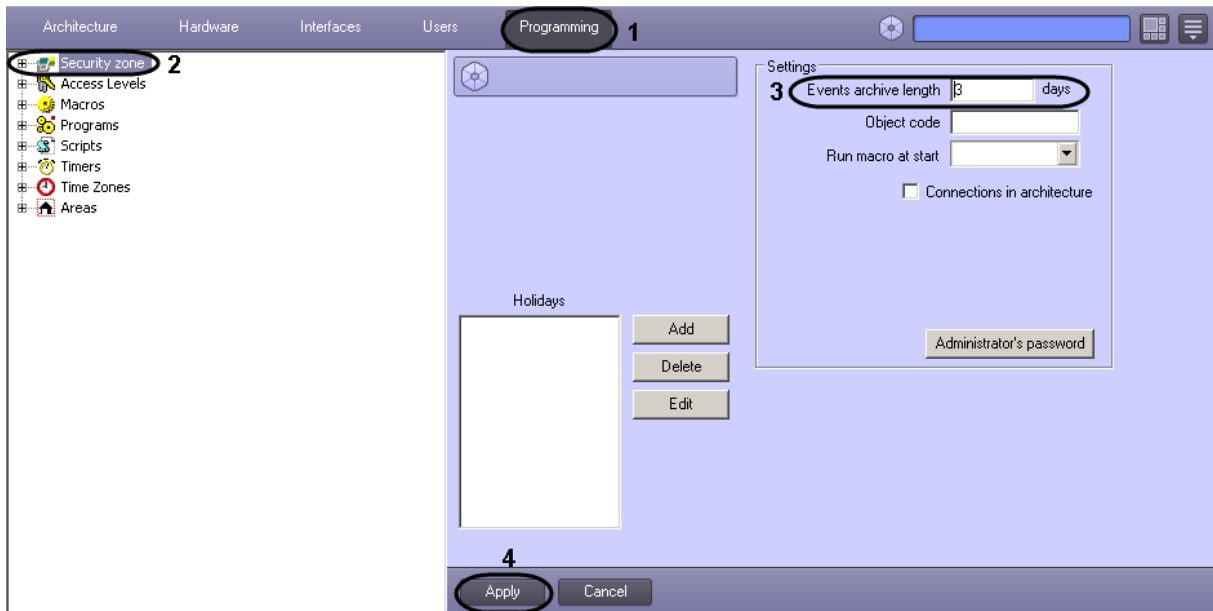

Figure 6.7—1 Specifying storage time for event log
1. Go to the **Programming** tab of the **System settings** dialog box (Figure 6.7—1, 1).
2. Go to the Security zone object setting panel (see Figure 6.7—1, 2).
3. Specify the term of keeping the event log in the **Event archive length** parameter (see Figure 6.7—1, 3).
4. Press **Apply** (see Figure 6.7—1, 4).